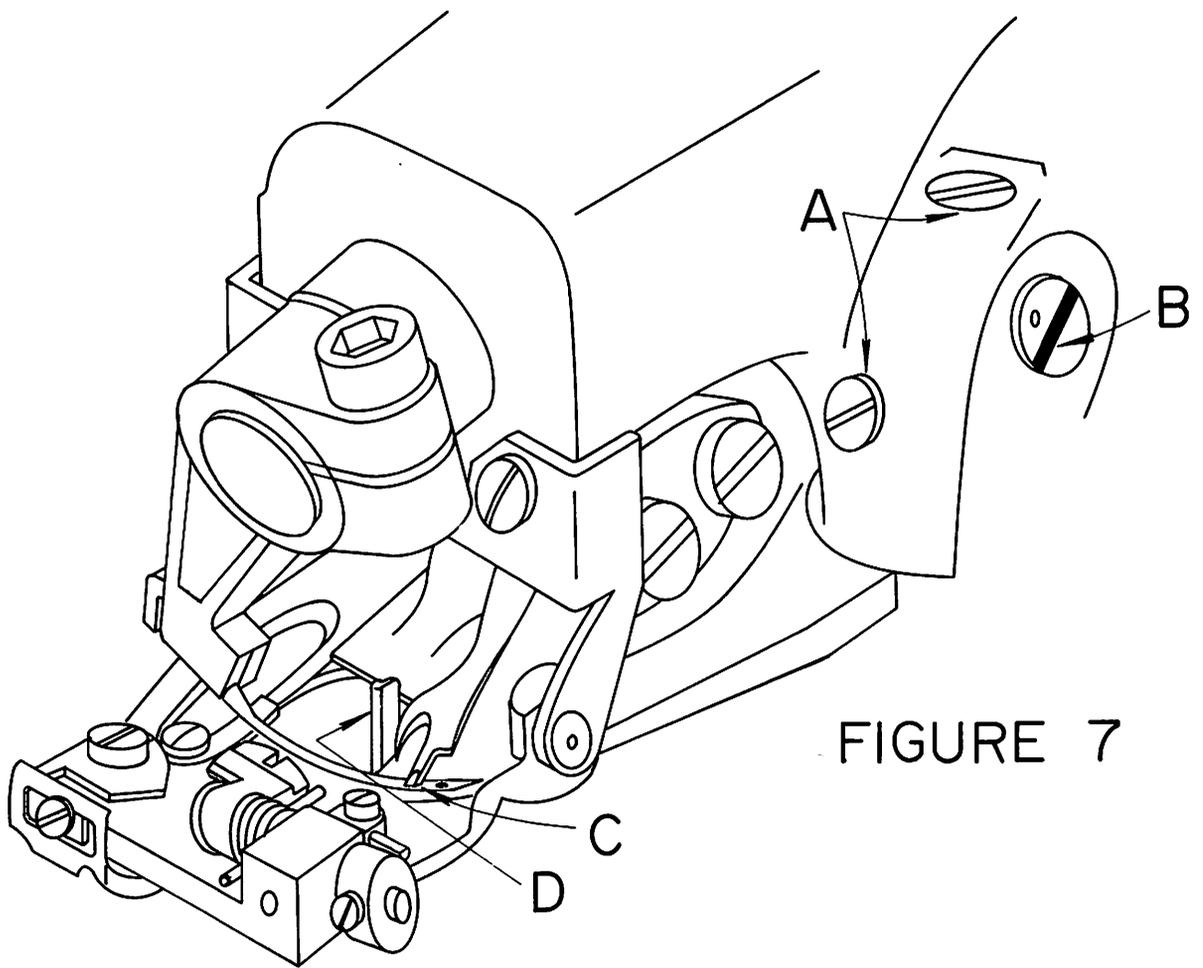

FIGURE 7
2. Any time a looper is moved or changed, recheck the looper timing and reset if necessary. Proper looper timing is absolutely essential for correct stitch formation. As described in detail below, a properly timed looper will pass over the needle in the correct position to pick up the loop, and also clear the chain-off pin, feeder, looper slot, and needle. The first check point for timing the looper is at the position where the looper picks the thread loop off the needle during the needle return stroke. Referring to Figure 7, (Point "C"), the long prong of the looper should pass over and just clear the scarf of the needle, approximately  $3/32$ " (2.4mm) behind the end of the needle eye. At the same time, the short prong of the looper should pass over the needle with about  $1/64$ " (.406mm) clearance, and must be so set that it also clears the chain-off pin (item "D" in Figure 7).
5. If, after completing the above adjustments, it is found that the looper is either too low or too high, it will be necessary to adjust the eccentric stud. First loosen the two set screws (item "A" in Figure 7). Place a wide blade screwdriver in the slot of the eccentric stud (item "B" in Figure 7) and, using a slight turning motion, raise or lower the looper as required. Once the proper height is established, check to see whether the looper must be moved to the left or to the right prior to retightening the eccentric block set screws. If such a movement is required, it may be obtained by lightly tapping the eccentric block in the correct direction with the handle of a screwdriver.
1. After considerable service, it may become necessary to replace the chain off pin, (Item "D" in Figure 7).